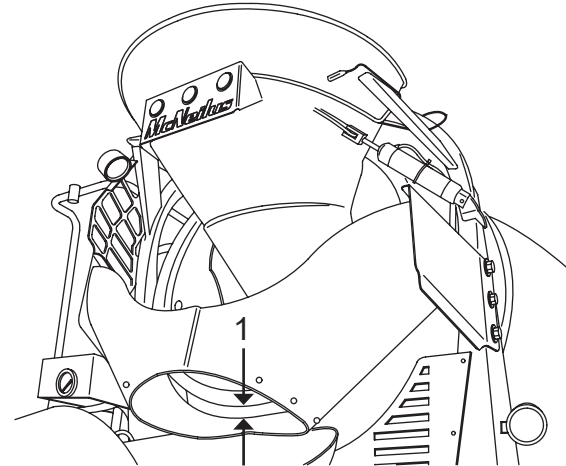

Figure 150
5. Check the discharge hopper-to-drip ring clearance (Figure 150, Item 1). Clearance should be 2 inches (51 mm) between the discharge hopper face and the drip ring, and no more than 1 inch (25 mm) radially around the drip ring.